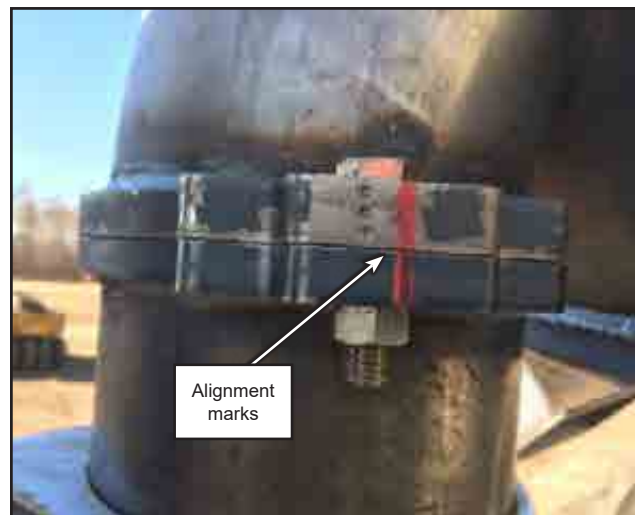

Figure 1.19 - Bolted Side Flange Scribe Marks
- f. Check the alignment marks made in step 3 and adjust the elbow as needed to get the orientation correct. Refer to *Figures 1.19 & 1.20*.